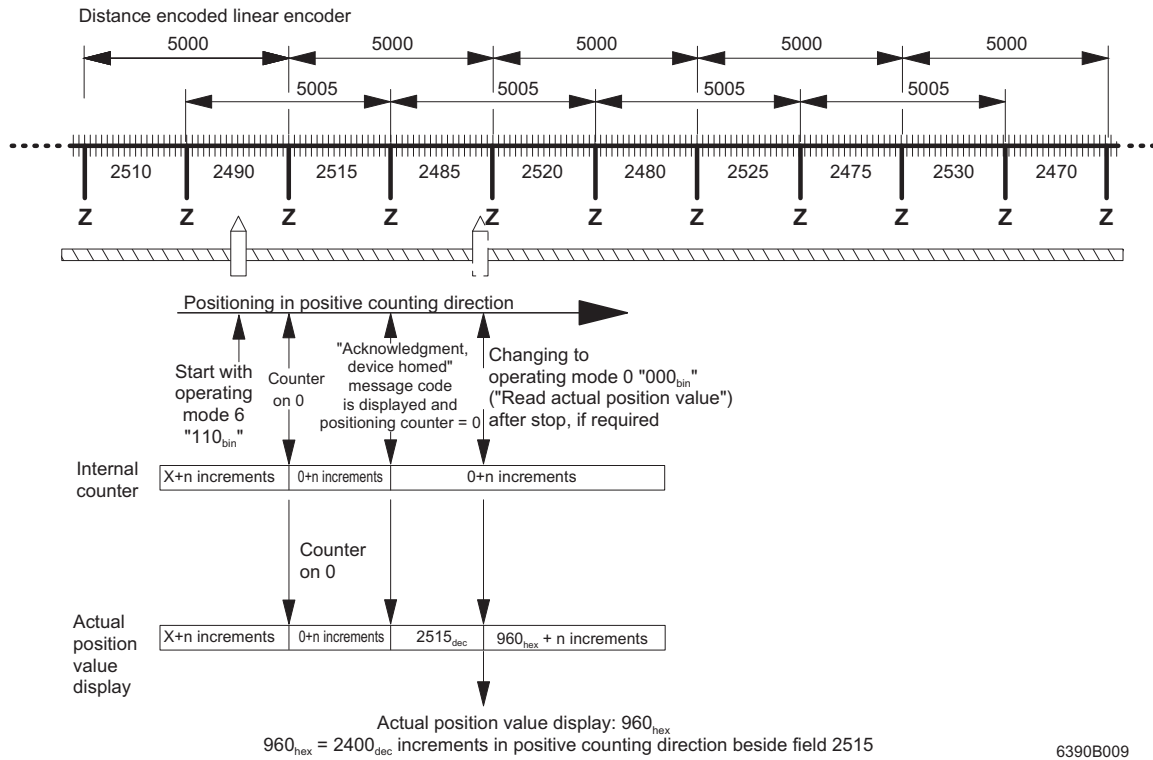

Fig. 5 Example 1: Positioning in positive counting direction
The process is carried out as follows (see Fig. 5 and Fig. 6): The slide position is unknown. In set operating mode 6 "110_{bin}" the slide is moved in any direction. When the slide reaches the first reference mark (Z) the internal counter is set to zero and the incoming increments of the counting track are added.